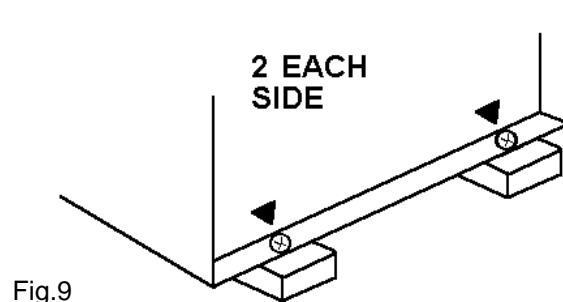

Fig.9
- Remove 4 screws which are securing the product to the wood inserts in the pack base. (See Fig. 9).